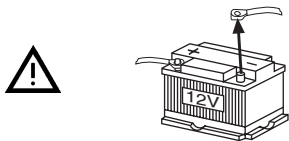

Fig. 1
Connect the fuse holder (**1A fuse**) to protect the positive cable (permanent (1), see Fig. 1). The fuse holder should
Connect the switching positive cable (2) (see Fig. 1) to the switching positive output (ignition ) of the main device (e.g. car radio or navigation device). If connecting to terminal 15 of the vehicle, protect the switching positive cable (2) by installing a fuse holder (1A fuse) at a maximum distance of 20 cm from the point of connection.
Attach the negative cable (1) (earth/GND, (3), see Fig. 1) directly to the vehicle body using a screw. Scratch the surface down to the bare metal at the point at which the earth contact is made and apply graphite grease (important for a good earth connection).